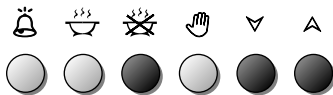

Fig. 7.6
2. Set the end of the cooking time by pressing the  button (the cooking time already added to the clock time will appear), and the  button (fig. 7.6); if you pass the desired time you may get back by pushing the  button.